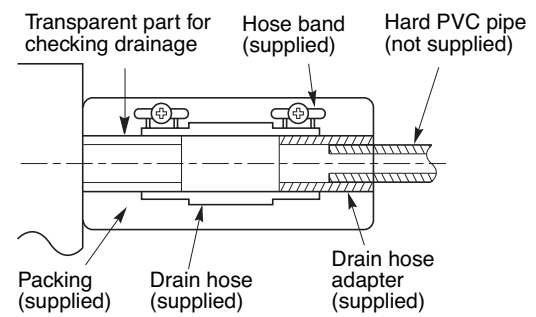

Fig. 3-98
- (1) Prepare standard hard PVC pipe for the drain and use the supplied hose band to prevent water leaks. The PVC pipe must be purchased separately. When doing this, leave a gap between the drain socket of the unit and the PVC pipe to allow the drainage to be checked. The transparent drain pipe allows you to check drainage. (Fig. 3-98)
CAUTION Tighten the hose clamps so their locking nuts face upward. (Fig. 3-98)